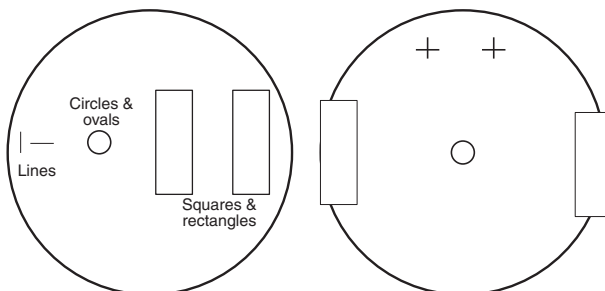

Figure 15-2 Prepare a construction template using simple shapes by combining circles, squares, rectangles, and lines.
- *Vector graphics* is composed of lines and other shapes. You make drawings by combining different shapes—squares, rectangles, lines, and so on—together. See Figure 15-2 for an example.